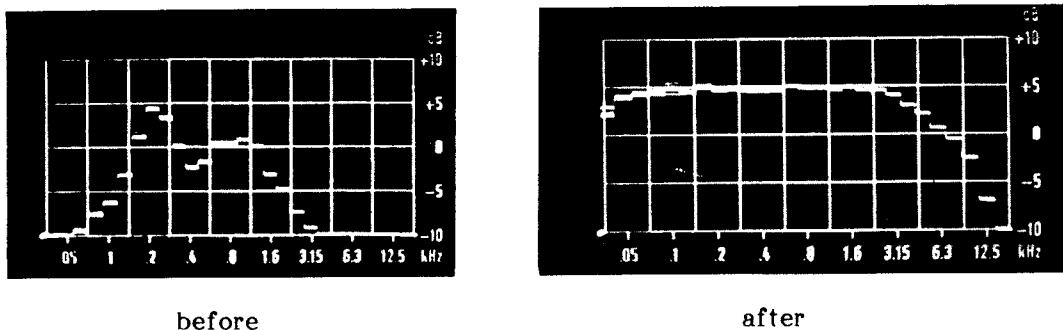

Fig. 7.2.7
- (c) Check that output level controls on output card ⑪ are at minimum (fully counter-clockwise).
- (d) Turn all the Cat. No. 64 House Equalizer ⑧, ⑨, ⑩ input controls to minimum (fully counterclockwise).
- (e) Thread up and play Dolby tone from Cat. No. 69 test film (check meters on Meter card ⑤ indicate Dolby Level).
- (f) Connect a millivoltmeter to C test points on Output card ⑪ and adjust center Cat. No. 64 ⑨ House Equalizer output control for a reading of 210 mV (-11.3 dBm).
- (g) Unplug the right Cat. No. 22 ④ module to produce a left only signal. Move the millivoltmeter to the L test point on the Output card ⑪ and adjust the left Cat. No. 64 ⑩ output control for a reading of 150 mV (-14.3 dBm).
- (j) Remove the decoder (Cat. No. 150 or Cat. No. 146) from (7) and remove the link card (Cat. No. 110L) from (6). The link card should be reversed and plugged into (7). This will provide a link for signals to pass through slot (7). Plug a Cat. No. 85 Pink Noise Generator into the 110/160 slot (6). On generator, switch to PN and switch pink noise on to left channel only. (NOTE: Switches are down for 'on', and up for 'off'.)
- (l) Commence equalization by turning 40 Hz band fully down. Make a rough equalization with the bass and treble controls on the Cat. No. 64 module, trying to obtain a response of about 6 dB below the mid band frequencies in the 8 kHz band. Then move to the 27 third octave bands, adjusting them to achieve a flat frequency response up to about 2 kHz, descending at 3 dB per octave to 8 kHz (-3 dB at 4 kHz, -6 dB at 8 kHz). Above 8 kHz, allow the speaker to set the drop-off. CAUTION: Do not try to adjust 1/3 octave controls 8 kHz and above. Double-check the results if it is noticed that adjacent potentiometers show great differences between settings. If adjacent potentiometers have alternately counter-clockwise and clockwise settings, the result will be fairly flat but with very poor phase response, and the potentiometers should be re-adjusted to show small variations from band to band. The final result is shown in Fig. 7.2.7 below.